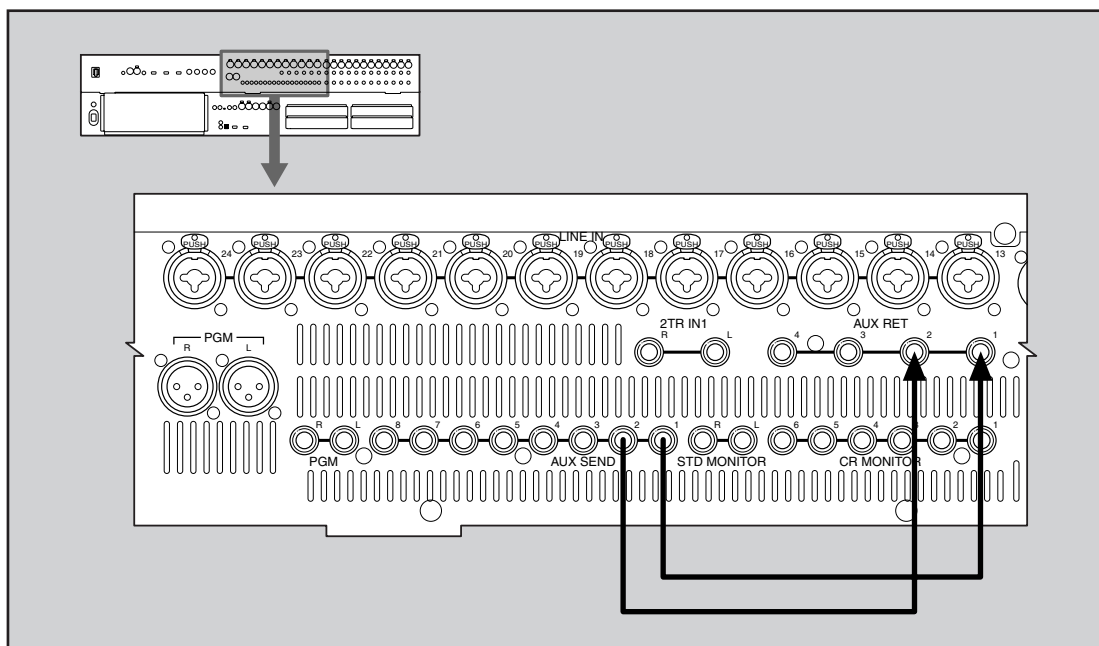

Figure 32
**Important Note:** If a bus insert is IN, signal must physically get from return to send; otherwise, you won't hear any sound. In this exercise, Aux Sends 1 and 2 were designated as Insert sends for the PGM bus, and Aux Returns 1 and 2 were designated as Insert returns, so you must make a physical connection from send to return (with any desired outboard gear patched in-between) in order for audio to appear in the PGM bus. (See Figure 32)